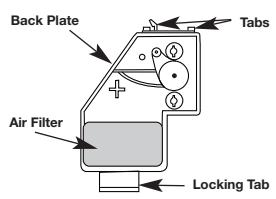

Fig. 42
- Replace the filter (Fig. 42).
- Reinstall the air filter cover. Position the slots on the top of the air filter cover onto the tabs at the top of the back plate (Fig. 42).